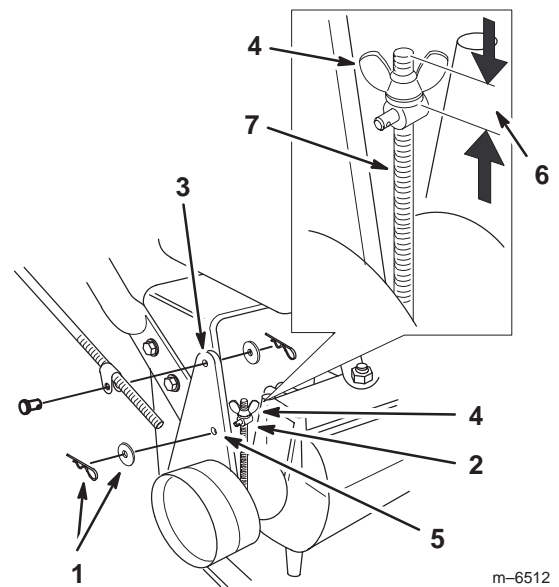

Figure 42
Note: For the initial adjustment, adjust the wing nut until it is 1–1/4 inches from the top of the rod (Fig. 42).
5. To adjust the brake remove the hair pin cotter and washer from the brake lever and trunnion (Fig. 42).
8. Install the trunnion into hole **F** (Fig. 42). Tighten the wing nut.
9. Secure trunnion to brake lever with washer and hair pin cotter (Fig. 42).